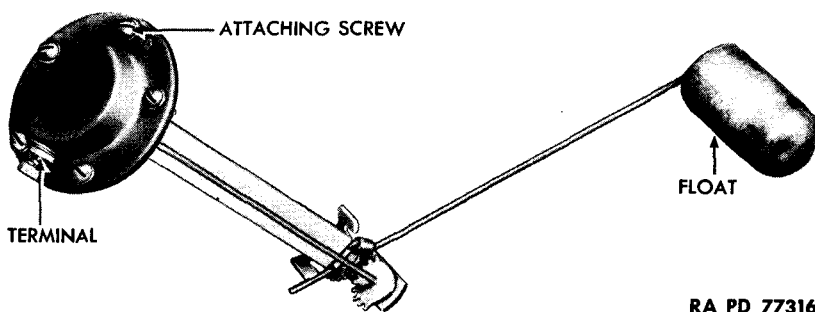

Figure 105 – Fuel Gage Tank Unit
b. **Tank Unit Removal** (fig. 105). Remove the five screws and lock washers which secure fuel tank shield to fuel tank brackets, and remove shield. Disconnect wire from terminal, remove the four screws and lock washers which secure tank unit to tank, and lift unit out.